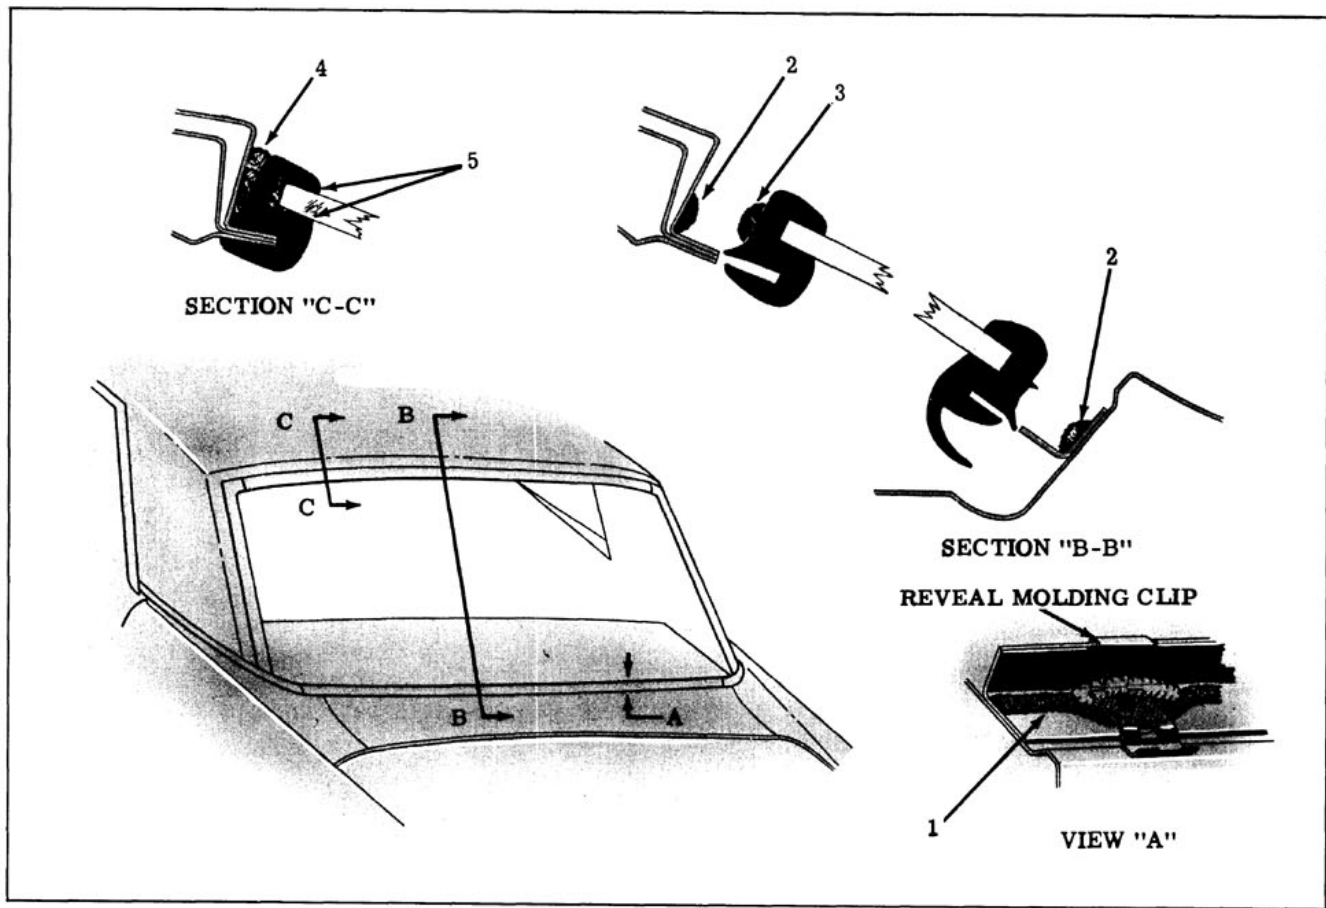

Fig. 16-110 Back Window Sealing
2. Check installation of reveal molding clips at pinchweld and retaining flanges and replace clips, where necessary. If replacing clips, apply medium-bodied sealer to opening rabbet, prior to installing clips. ("1", View "A", Fig. 16-110)
5. Apply a continuous ribbon of medium-bodied sealer (approximately 1/2" wide by 1/4" thick) to base of rubber channel across top and down sides. ("3", Section "B-B", Fig. 16-110)
8. Using a pressure-type applicator, apply sufficient medium-bodied sealer to completely fill any openings between rubber channel and body, completely around rubber channel. ("4", Section "C-C", Fig. 16-110)
glass around entire perimeter of glass. ("5", Section "C-C", Fig. 16-110) Application of adhesive should be continuous with no skips.